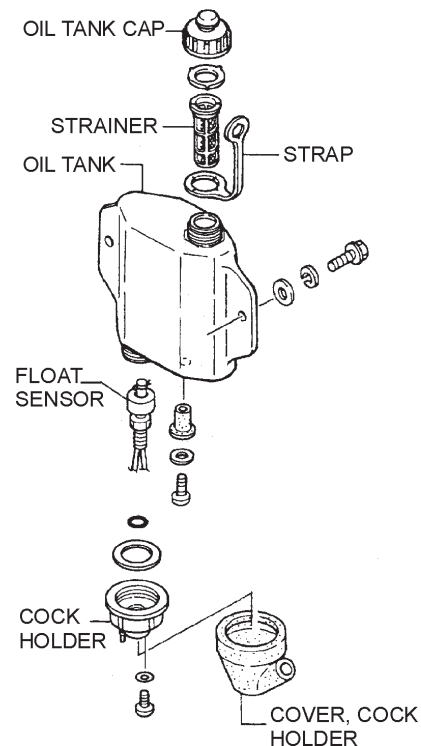

Figure 13. Oil Tank
- When cleaning the oil tank (Figure 13) perform the following procedure: